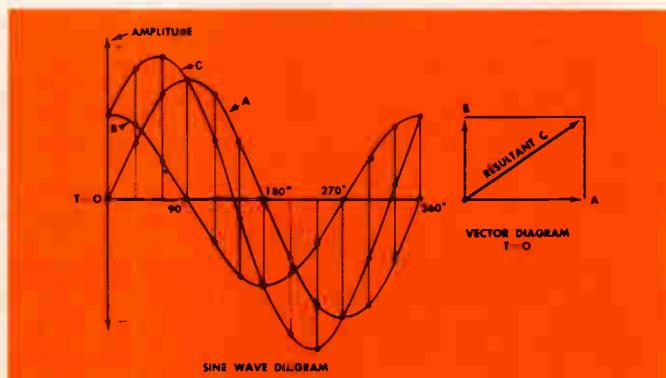

Fig. 4
Figure 4 shows the addition of two sine waves (A and B) whose amplitudes are unequal. The resultant wave (C) is obtained by the same point-by-point addition of the two waves. The vector addition is also accomplished as before. Note that the resultant vector (C) indicates that the change in wave (B) has caused a phase shift towards vector A. It can be seen that this phase shift exists in the waveform diagram also.